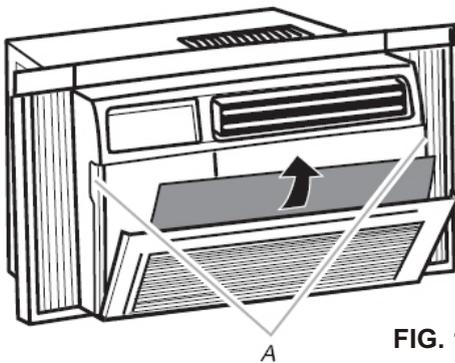

FIG. 15
1. Take off the power plug, then remove the filter by sliding it out from the front right side of the air conditioner. (See Fig .15)